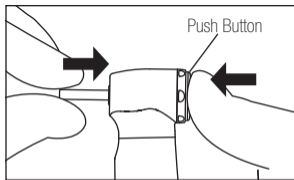

Fig. 3
- 1) Insert the bur until it is correctly seated in place. (Fig.3)